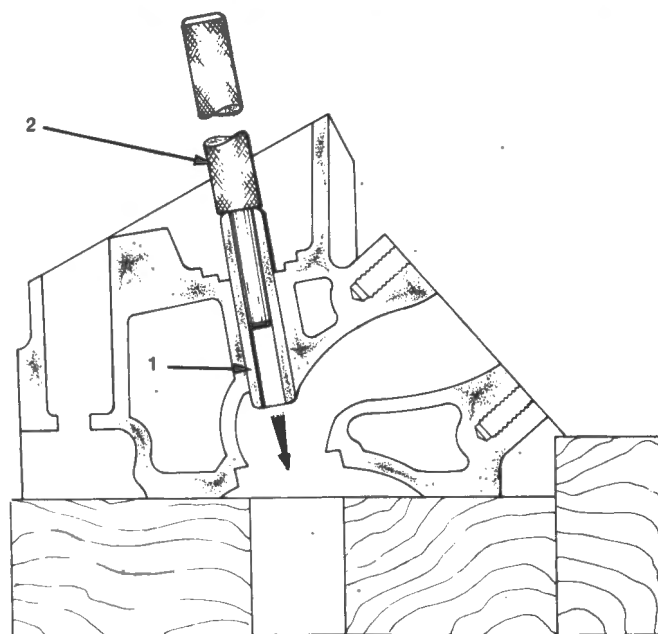

Fig. D-49
- 2 Using service tool 18GA050 drift the guide out from the spring seat side as shown in Fig. D-49.